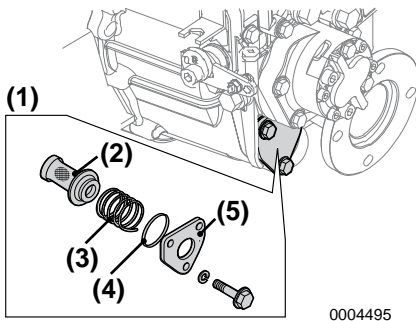

Figure 3
- a. Remove side cover (**Figure 3, (5)**) and remove the filter (**Figure 3, (2)**).
- c. Hold the filter in place with the coil spring (**Figure 3, (3)**) and insert into the case. Install a new O-ring (**Figure 3, (4)**) in the side cover.
- d. Install side cover (**Figure 3, (5)**) and tighten side cover bolts.